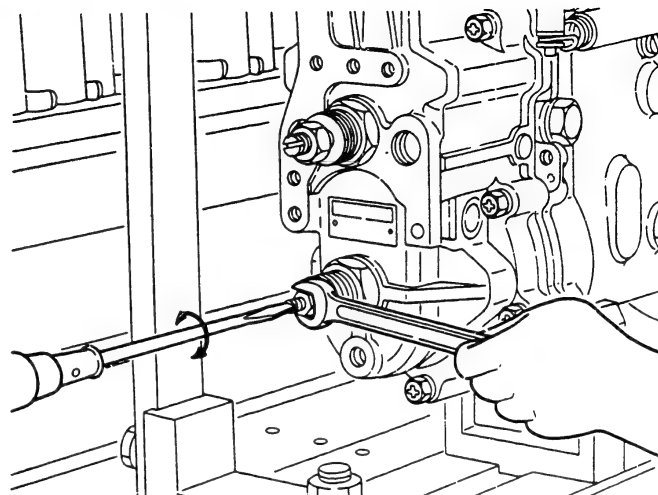

Fig. 142 Adjustment of the inner spring
- 2) Adjust the screw (133/2) after increasing the pump speed to N_b rpm so that the control rack will be at R_c mm, and then lock the locking nut (133/5). (Fig. 142)